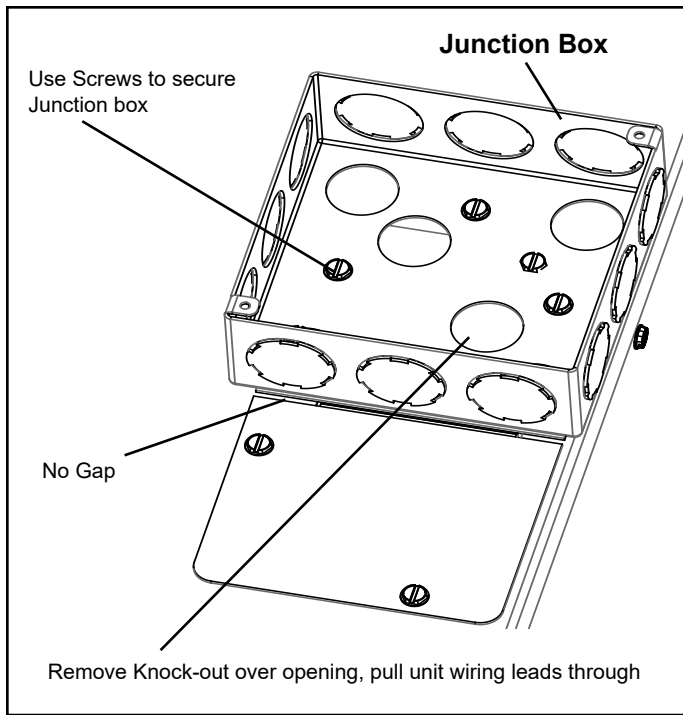

Figure 5.
2. Position a 4x4 junction box over the opening as shown in Figure 5. Make sure the junction box is pulled up against the front cover so that there is no gap. Remove a knock-out in the box to allow the unit wiring leads to extend into the bottom of the box. Pull the leads through the knock-out and into the box. Remove a knock-out for the main power supply leads.